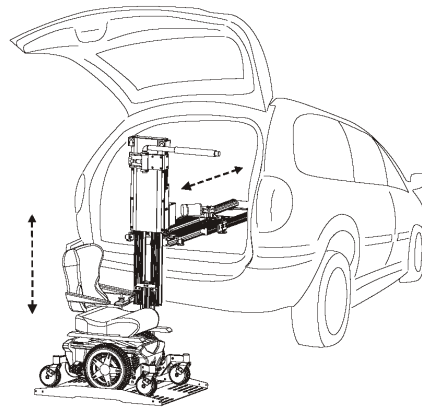

Figure 4-46
7. Test the function and full range of motion of the lift with the platform loaded. Check that the platform and the mobility device clears the vehicles opening and any obstructions within the vehicle. *See Figure 4-46 and 4-47.*